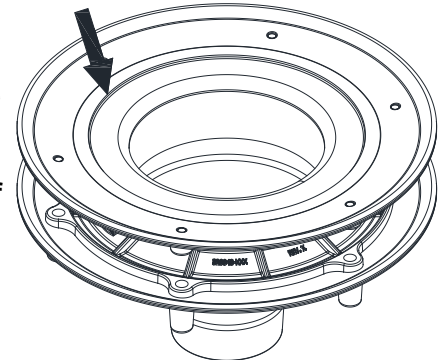

Fig. 2
Step 10 – Cut the membrane as per the roof membrane manufacturer's requirements in the center of the clamping collar. Continue to cut outward until the precast cutting edge in the extension body is located (Fig. 2). Once precast edge is found, cut out circular section of membrane by following the cutting edge.